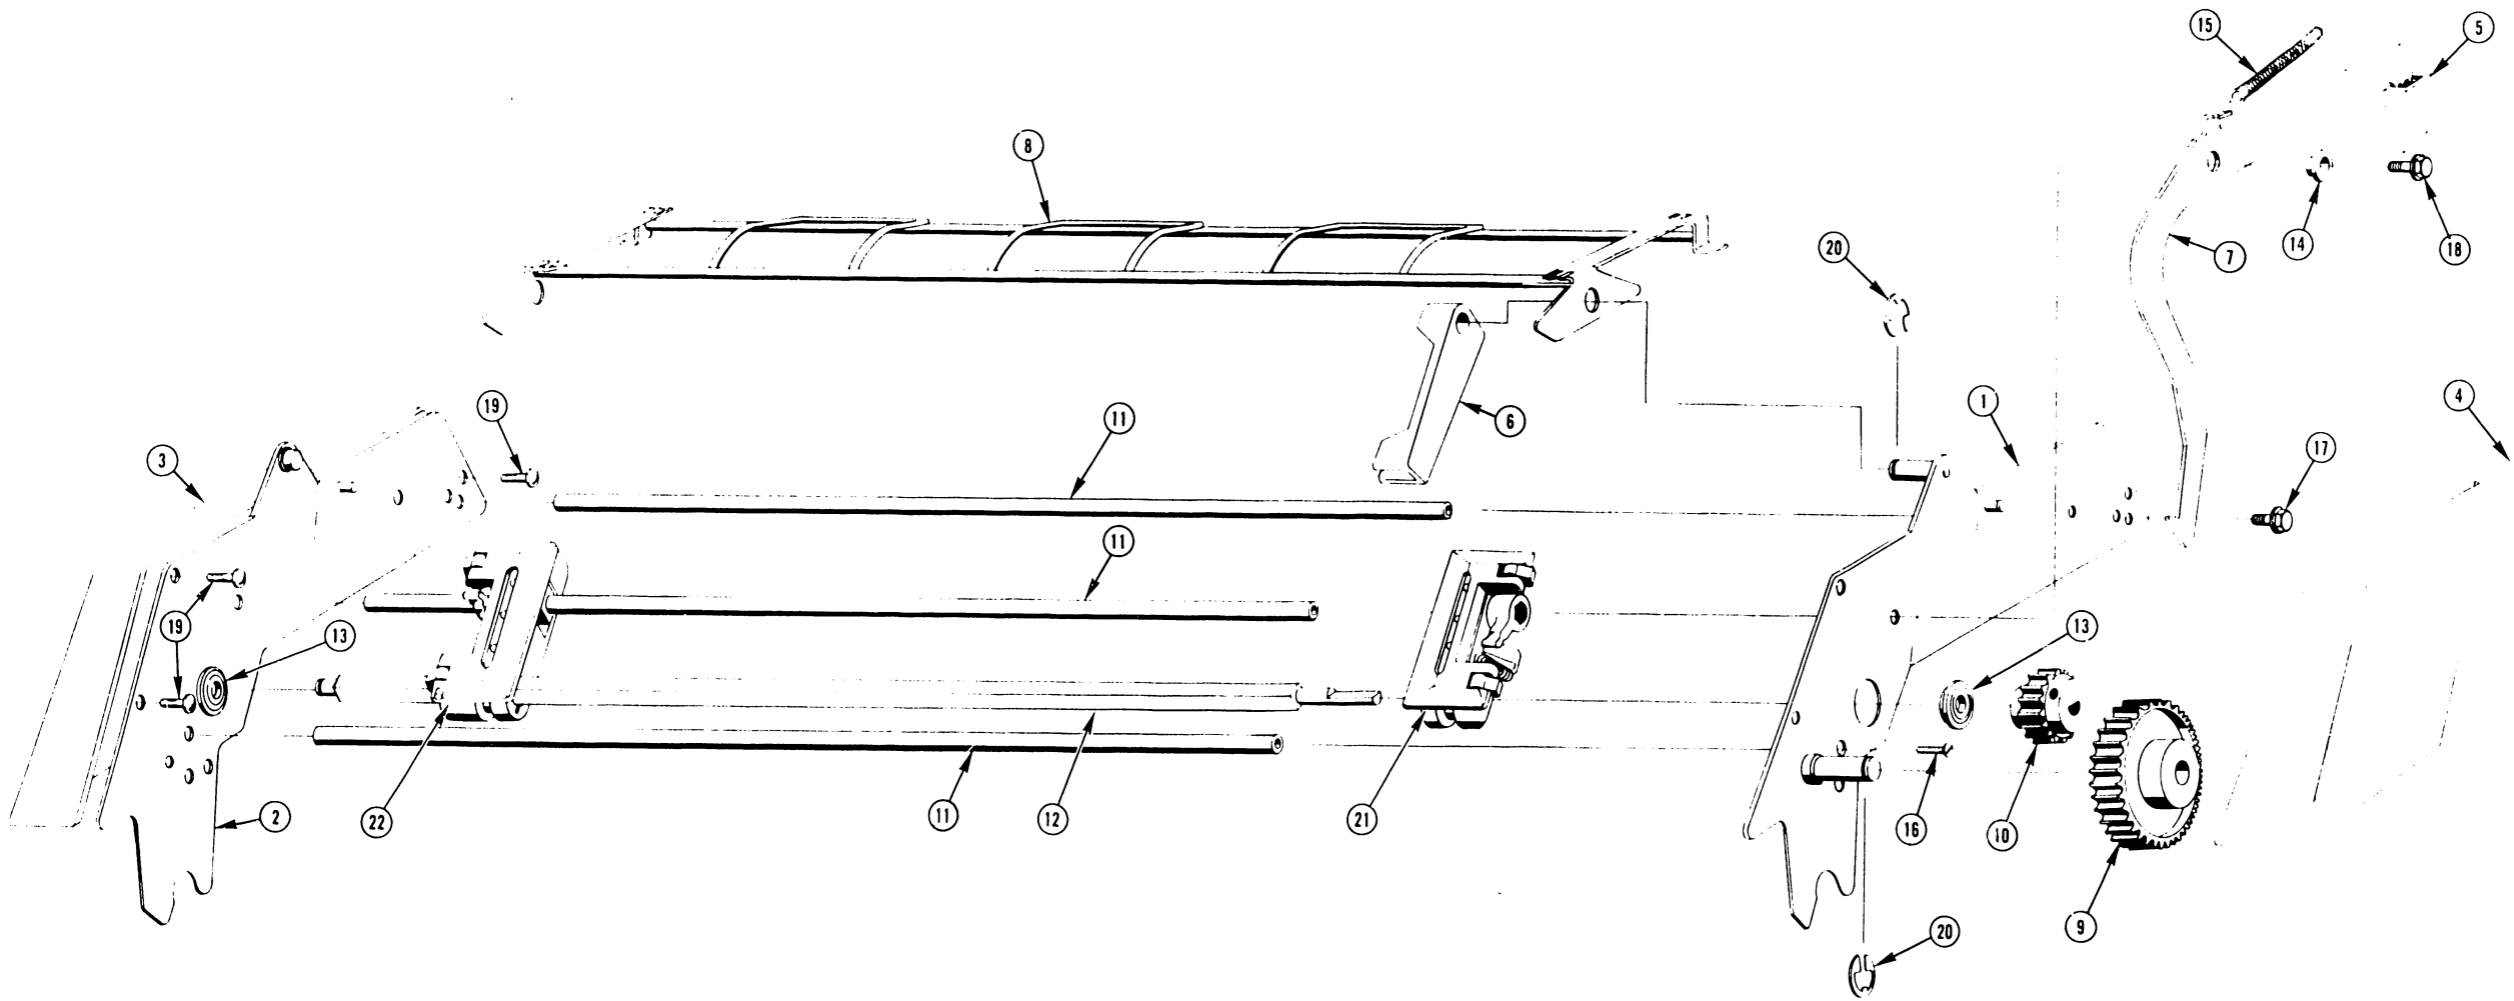

FIGURE 9-12 TRACTOR FEED ASSEMBLY
9.3.11 TRACTOR FEED ASSEMBLY 279-5159 (81W/41W) (SEE FIGURE 9-12)